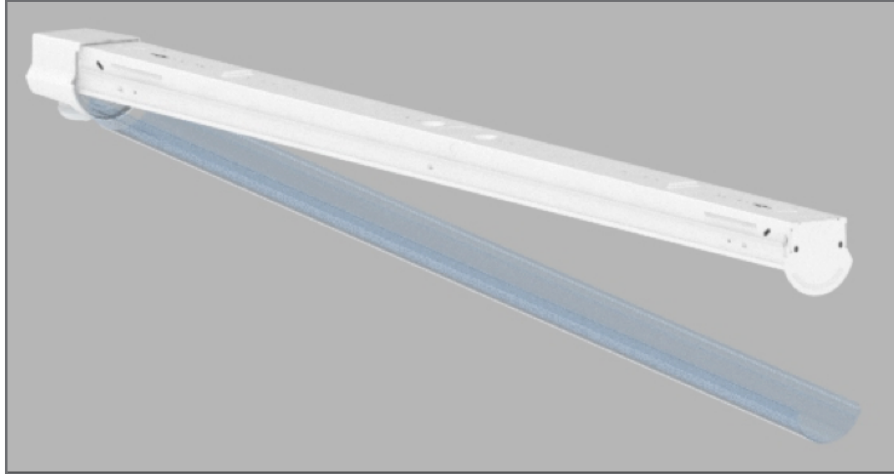
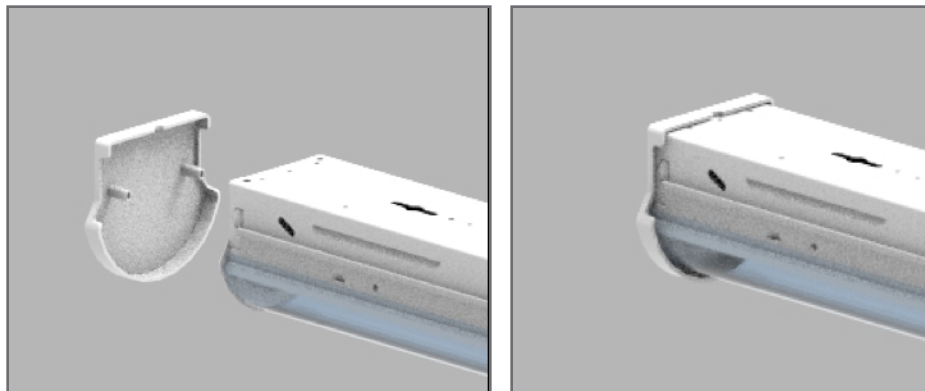

FIGURE 2
FIGURE 7
1. Separate the lens from the reflector plate by pulling the lens flange away from the housing on both sides. Pull the lens out at an angle so that it clears the endcap with the sensor. This is shown in Figure 2.
2. Snap the Flat Injection Molded ABS Endcap ("D" in Figure 2) into place over the metal end caps as shown in Figure 7.